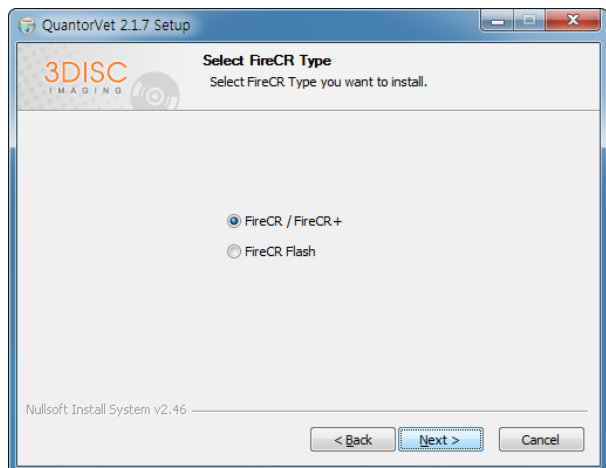

Figure 2.4 FireCR Model Selection Dialog Box
- Choose **FireCR** model and click the "Next" button as shown In Figure 2.4.